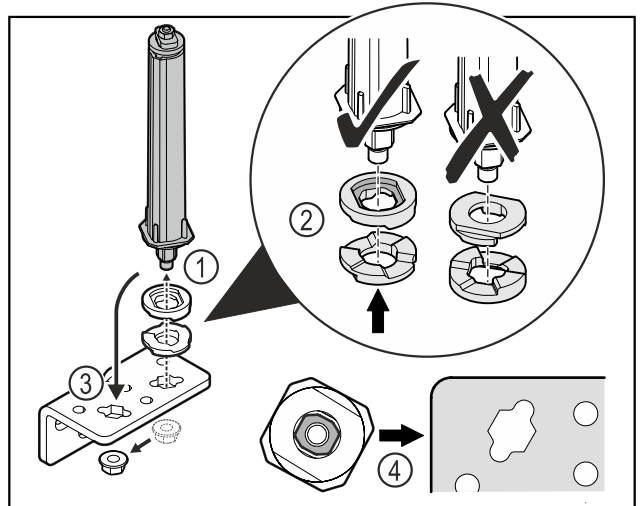

Fig. 42
- ▶ Loosen the nut and remove the door closing system Fig. 42 (1).
- ▶ Observe the correct alignment of the height adjustment washers Fig. 42 (2).
- ▶ Put the door closing system in the hinge and fix in place with the nut Fig. 42 (3).
- ▶ Observe the correct alignment of the door closing system when doing so Fig. 42 (4).